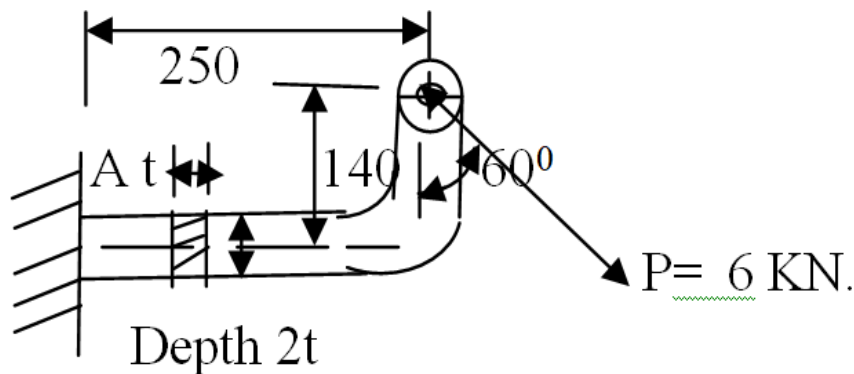

Figure 1. (All dimensions are in mm)
- C) A wall bracket with a rectangular cross section is as shown in the Figure 1, the depth of the cross section is twice that of the width. The force P is acting on the bracket at 60 degree to the vertical is 6 kN. The material is made of Gray cast iron FG 250 and the factor of safety is 3. Determine the dimensions of the cross section of the bracket. Assume maximum normal stress theory of failure.